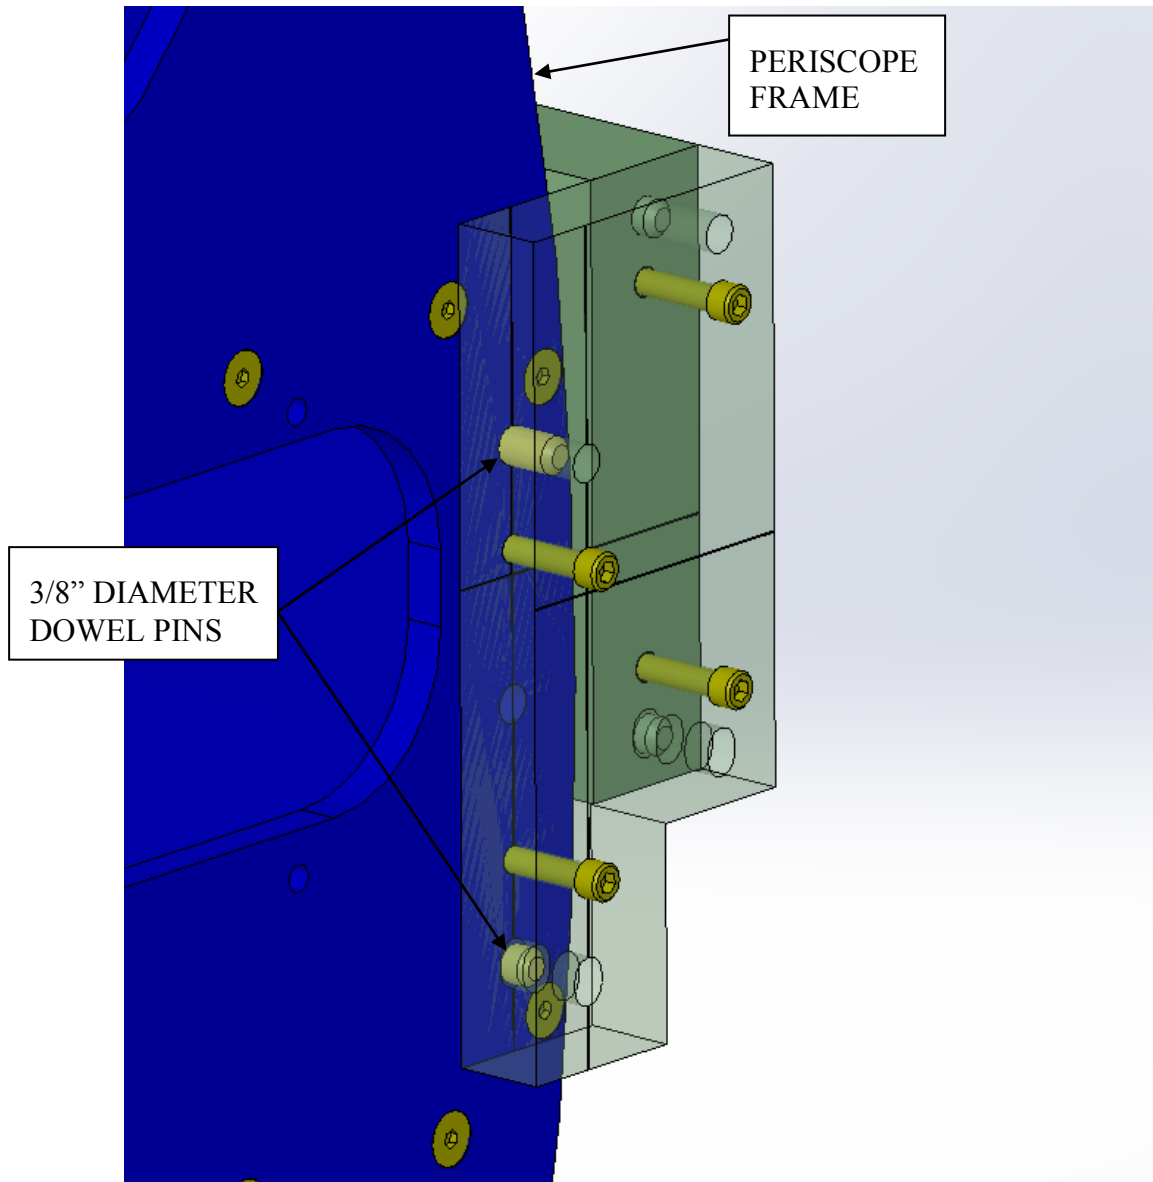

Figure 3 3/8" diameter dowel pins inserted into Periscope Frame front plate and Pivot Axis Assembly for registration and load bearing.
5. Slightly loosen the two $\frac{1}{4}$ -20 x 1-3/8L mounting screws of each Pivot Axis and insert two 3/8" diameter dowel pins to register each Pivot Axes as per **Figure 3**.